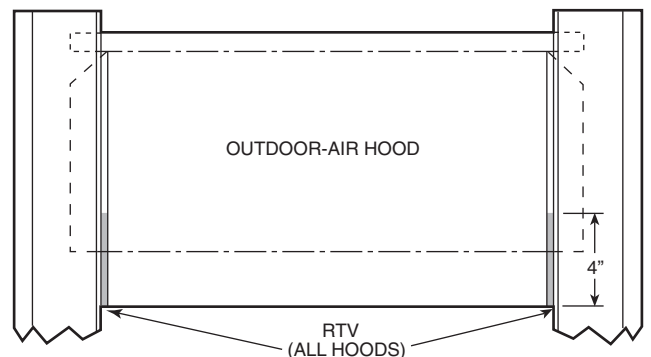

Fig. 30 — Outdoor-Air and Economizer Hood
5. Apply a bead of RTV or similar sealant to corner of each hood at pivot points to prevent water leaks. See Fig. 30.
6. Apply a bead of RTV or similar sealant to corners of economizer hoods at pivot points to prevent water leaks. See Fig. 30.
5. Apply a bead of RTV or similar sealant to corner of economizer hood at pivot points to prevent water leaks. See Fig. 30.